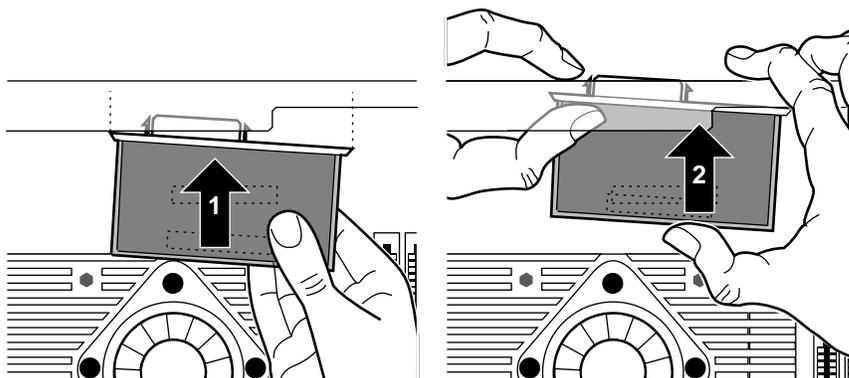

Figure 1-15 Aligning the Flat Panel Monitor Adapter Board
3. As shown in Figure 1-15, push the left side of the board (1), then the right (2), toward the rear of the system module so that the board's I/O connector goes through the slot and the connector underneath is aligned over the socket on the system board.